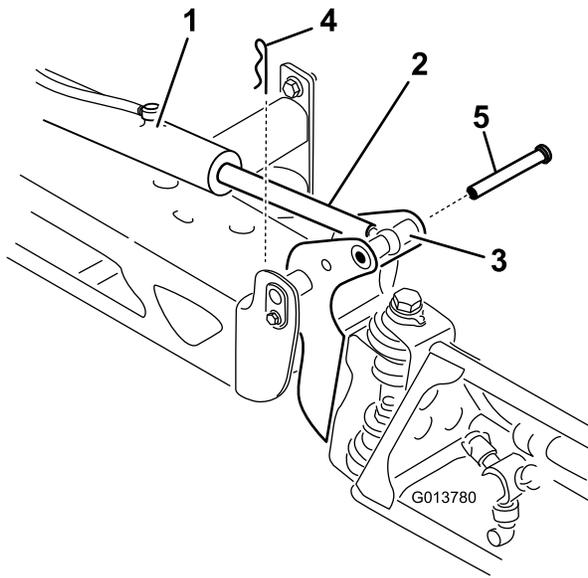

Figure 113
2. Remove the cotter pin from the pivot pin (Figure 113).
3. Lift up on the boom and remove the pin (Figure 113), and slowly lower the boom to the ground.
9. While holding the boom, insert the pin through both boom pivot and actuator rod (Figure 113).